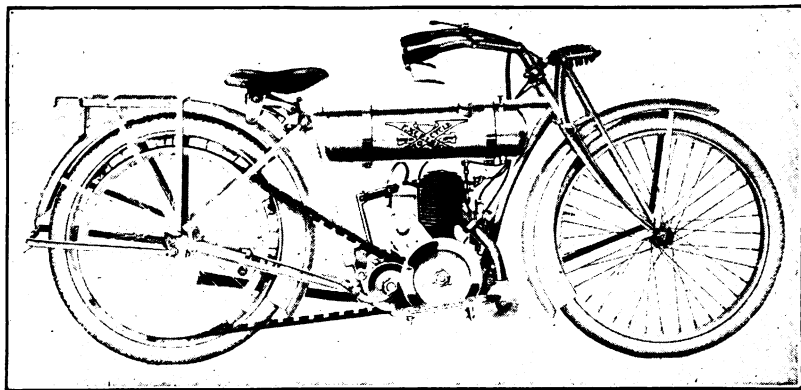

Fig. 9. Excelsior Light-Weight Motorcycle
**Excelsior.** One of the best examples of the two-cycle engine is the Excelsior Light-Weight model, Fig. 9, which employs a single-cylinder two-cycle engine of  $2\frac{1}{8}\frac{1}{4}$ -inch bore and  $2\frac{3}{4}$ -inch stroke, giving a piston displacement of 22.87 cubic inches. The ignition is provided for by a high-tension magneto driven by a silent chain, and the drive is through a two-speed gear and V-belt. The ratio on high speed is  $5\frac{7}{8}$  to 1 and on low speed  $8\frac{1}{8}$  to 1. This design shows well-developed springing and a kick starter.
*Types of Frames.* There are two types of frames ordinarily used in motorcycle construction. One is formed with a loop, as shown in Fig. 26, the motor fastening to lugs on either side of the loop. This construction makes the machine very easy to assemble, and the frame is equally strong whether the motor is in or out of the frame. The other construction is similar to this, except that the loop below is eliminated, as shown very noticeably in Fig. 9. The lugs fasten